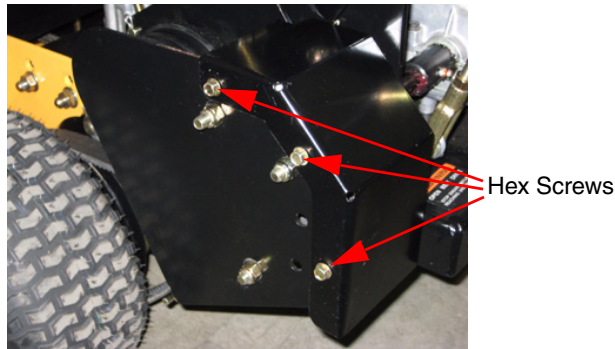

Figure 21
1. Remove the hex screws retaining the outer belt guard. (See Figure 21 page 20)
9. Reposition the outer belt guard, reinstall the hex screws. (See Figure 21 page 20)